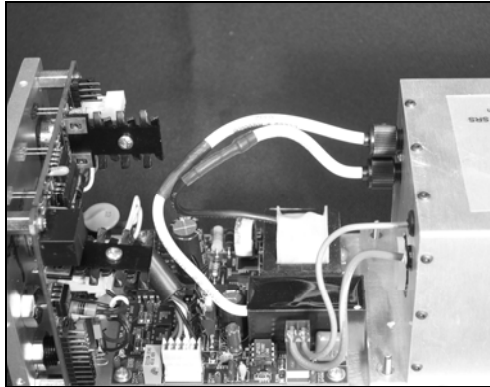

Figure 25. Make sure HV lead is not near board components.
10. Make sure the HV lead is clear of all components attached to either printed circuit board as shown in Figure 25. It may touch the trigger wire lead.